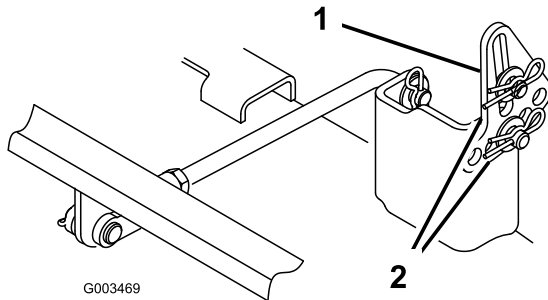

Figure 36
2. Replace the left side mower leveling bracket (hole) with the slotted leveling bracket (Figure 36). Secure it with the existing washers and hairpin cotters.